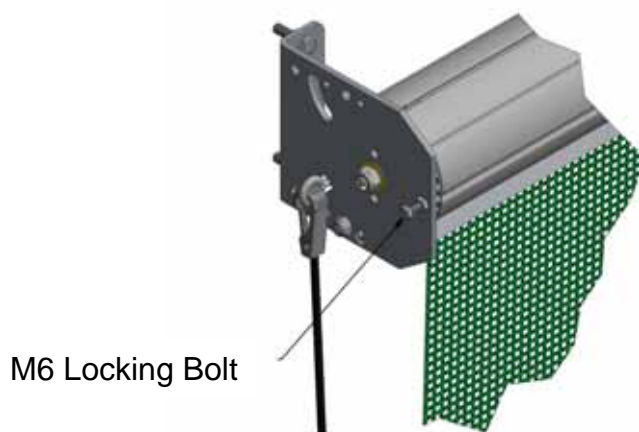

Fig 11a, Locking Bolt
- Lower screen fully and re-engage the M6 bolt to lock the spring mechanism (Figure 11a).